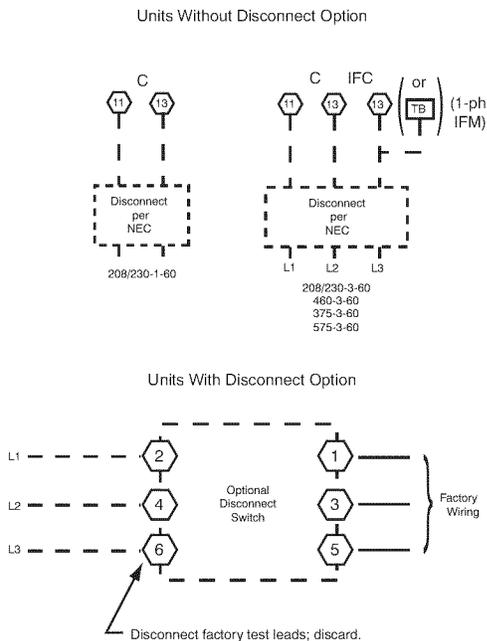

Fig. 22 - Power Wiring Connections
Field power wires are connected to the unit at line-side pressure lugs on compressor contactor C and indoor fan contactor IFC (see wiring diagram label for control box component arrangement) or at factory-installed option non-fused disconnect switch. Max wire size is #2 AWG (copper only). (See Fig. 22.)
control box. The manual switch handle is accessible through an opening in the access panel. Discard the factory test leads (see Fig. 22).
All field wiring must comply with NEC and all local codes. Size wire based on MCA (Minimum Circuit Amps) on the unit informative plate. See Fig. 22 and the unit label diagram for power wiring connections to the unit power terminal blocks and equipment ground. Maximum wire size is #2 ga AWG per pole.
2. Install power lines to terminal connections as shown in Fig. 22.